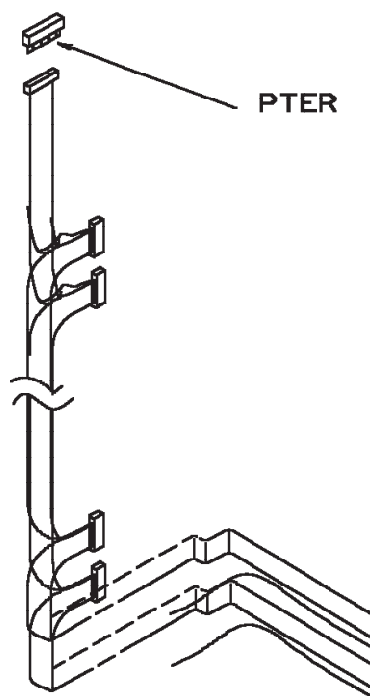

Figure 3-13. Power Terminator (Frame 01 Represented)
5. Disconnect the power bus cable from the terminator on the bus to be tested. See Figure 3-13.